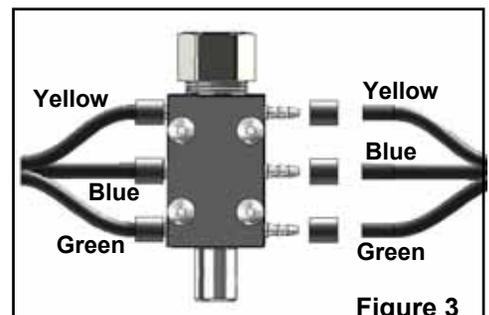

Figure 3
**STEP #1** - Hook up the control tubing from the Euro foot activator to the valve block with the plastic sleeves provided as per Figure 3. (Note: To facilitate the installation of the tubing and sleeves, dip the ends of the tubing into hot soapy water and, using a pair of needle nose pliers, push the tubing on to the barb fittings. An adjustable wrench opened to the diameter of the tubing will assist in pushing on the sleeves. Take care not to damage the barb fittings or crush the tubes). If a tube must be removed from a barb fitting, split the tube along its length with a sharp knife (Do not pull as this may damage the barb).